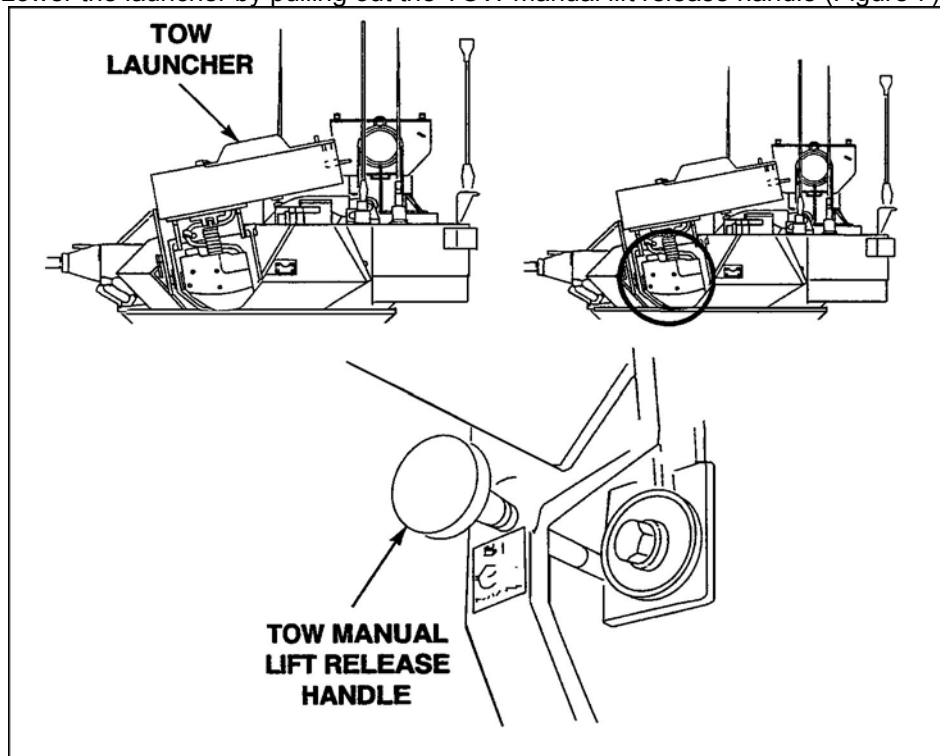

Figure 7. TOW manual lift release handle.
- i. Lower the launcher by pulling out the TOW manual lift release handle (Figure 7).